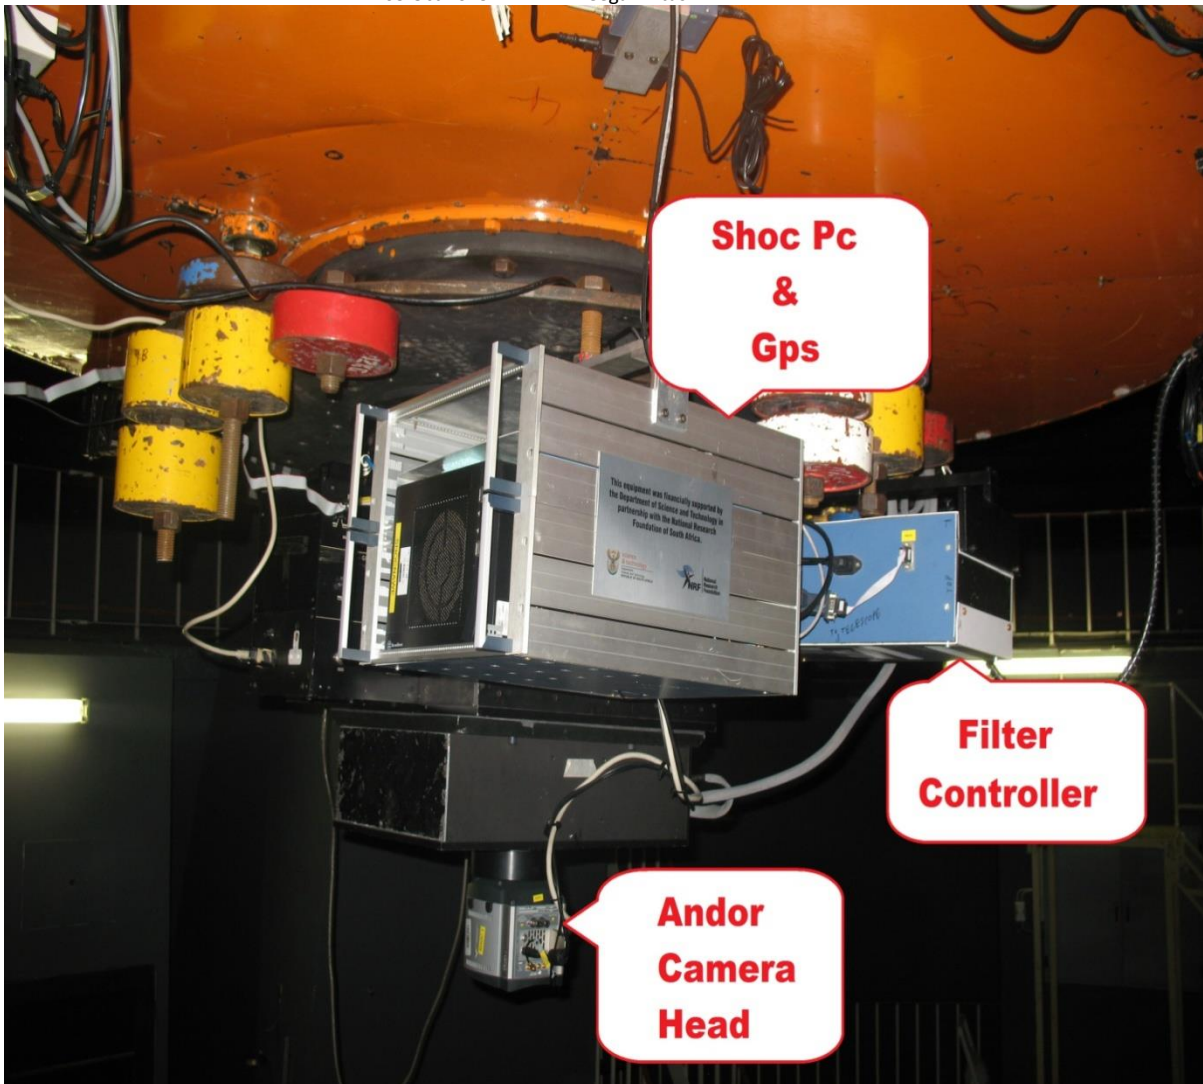

Figure 1: SHOC on the Telescope, view from NE Quadrant
1. Mount SHOC PC Crate on Telescope (see Fig 1).